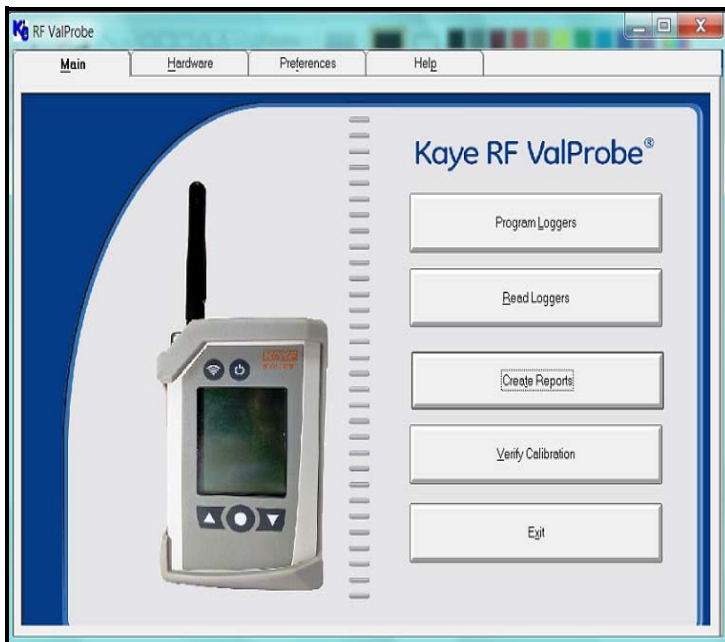

Figure 20: Kaye RF ValProbe Main Menu
3. On the **File** menu, click Exit to log out of the Password Maintenance utility. The RF ValProbe Main Menu appears, as shown in Figure 20 below.
Once the software has established data inputs from the Base Station and Loggers, the screen appears similar to Figure 20 on the next page, with the temperature and humidity displayed.